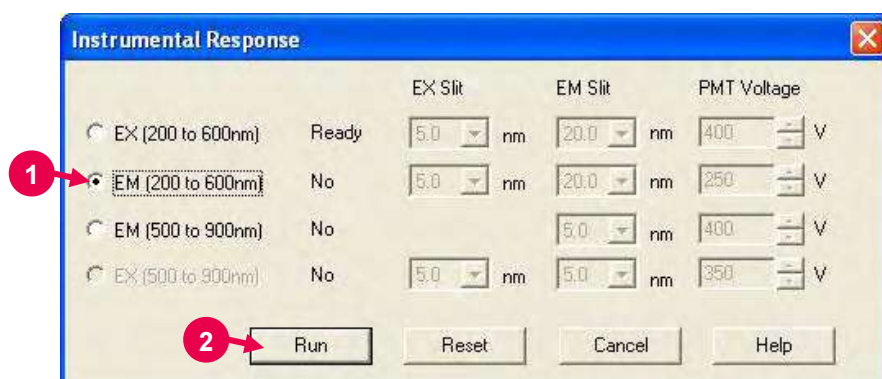
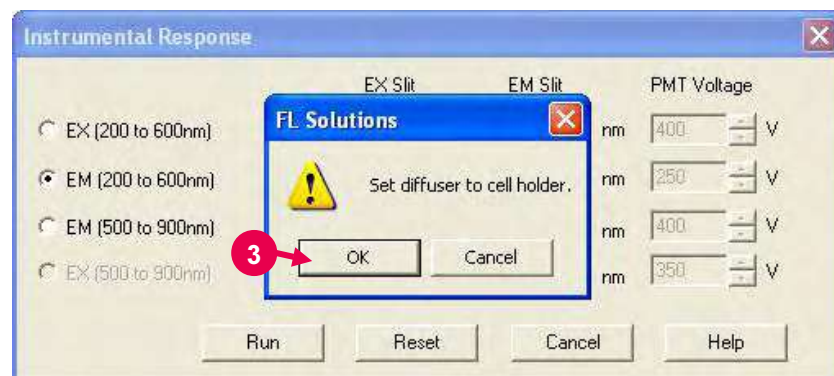

Fig. F-7
Fig. F-8
2. It may take time to obtain stable data due to characteristics of the detector immediately after the photomultiplier voltage has been remarkably changed (from 700 V to 250 V for example). When more accurately calibrating the zero point, wait until stable data is obtained and then proceed to step (5).
(7) Execute the Instrumental Response command from the Utility menu. The Instrumental Response dialog box will open as shown in Fig. F-7.
Select "EM [200 to 600 nm]." (Refer to ① in Fig. F-7.)
(8) Click the **Run** button. (Refer to ② in Fig. F-7.) A message box "Set diffuser to cell holder." will appear. Click the **OK** button. (Refer to ③ in Fig. F-8.)